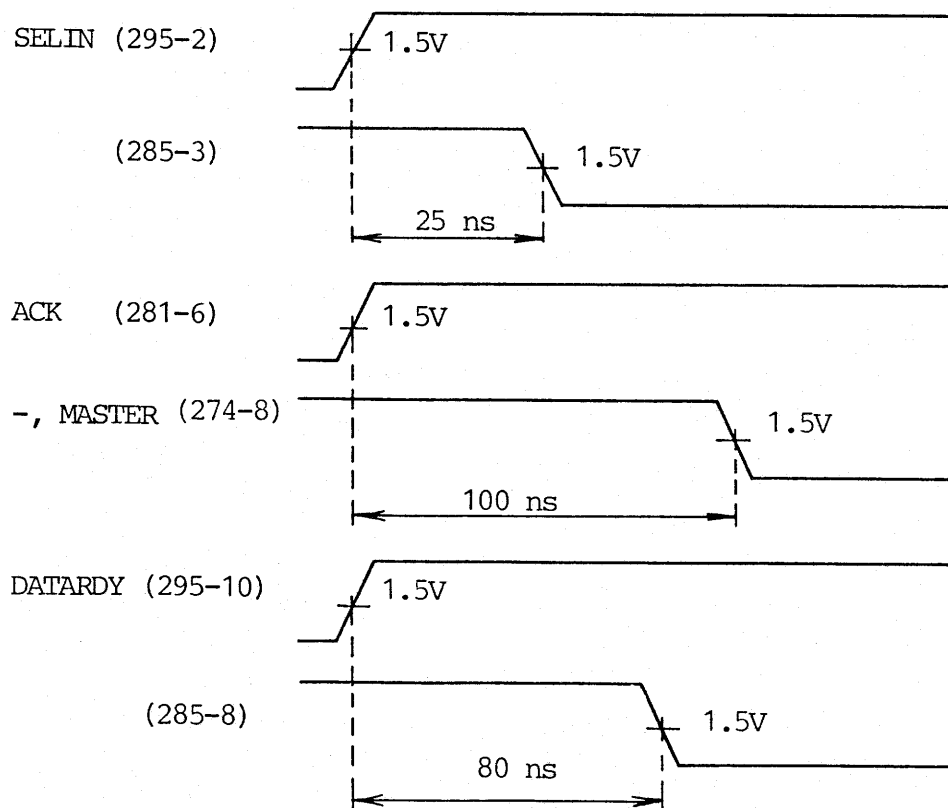

Figure 3.4 CPU 810 deskew delays.
3. Adjust the delays according to figure 3.4